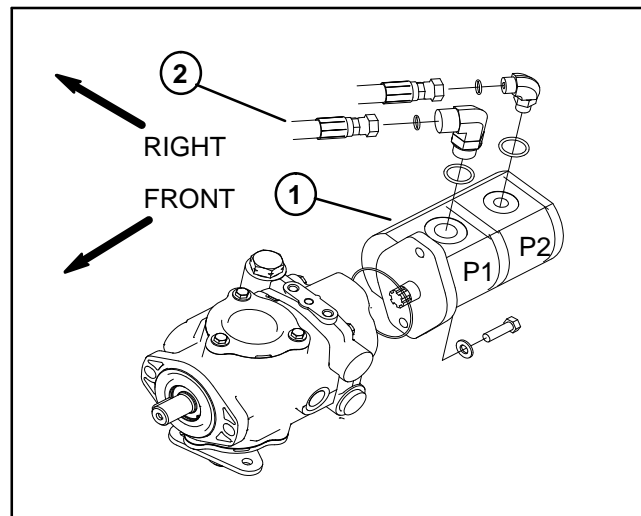

Figure 35
3. Disconnect hose connection on the gear pump (P1) leading to port (P) on the mow control manifold (Fig. 35).